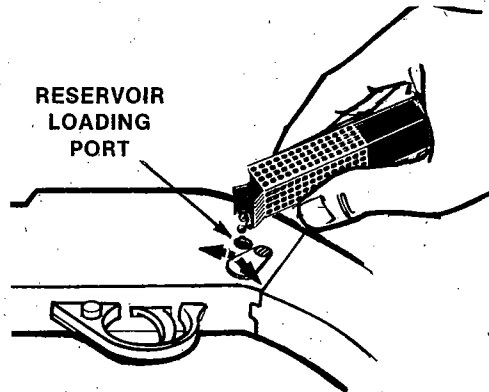

FIG. 3
- A. Rotate the Loading Port Cover to the right and fill Reservoir with 180 BBs (Fig. 3). Close cover to the left.